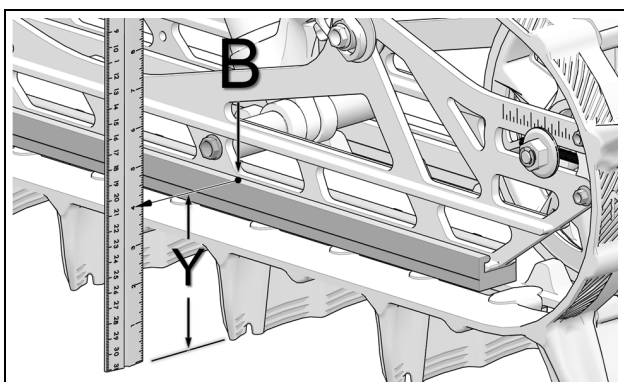

Figure 35
- At the **rear** measurement point (**B**), measure distance (**Y**) between the top of the rail slide and the ground. See Figure 35.